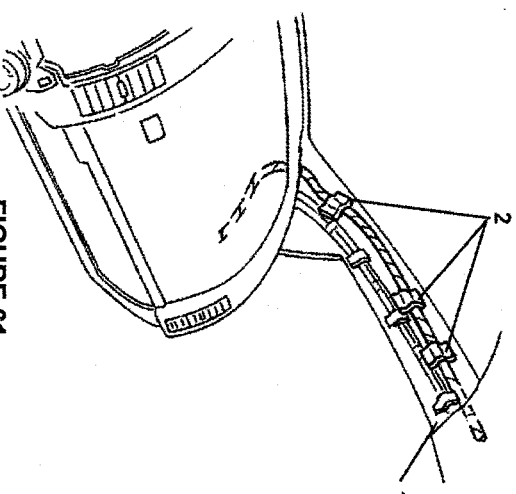

FIGURE 61
- 12.) CONTINUE ROUTING THE DVD MAIN WIRING HARNESS FROM THE TOP OF THE A-PILLAR (1) DOWN TO THE GLOVE BOX AREA AND SECURE USING THREE PIECES OF FOAM TAPE (2). (SEE FIGURE 61)